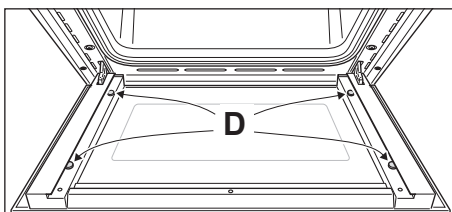

Figure 24a
- Check that the four rubber pads are in place ("D" in fig. 24a).